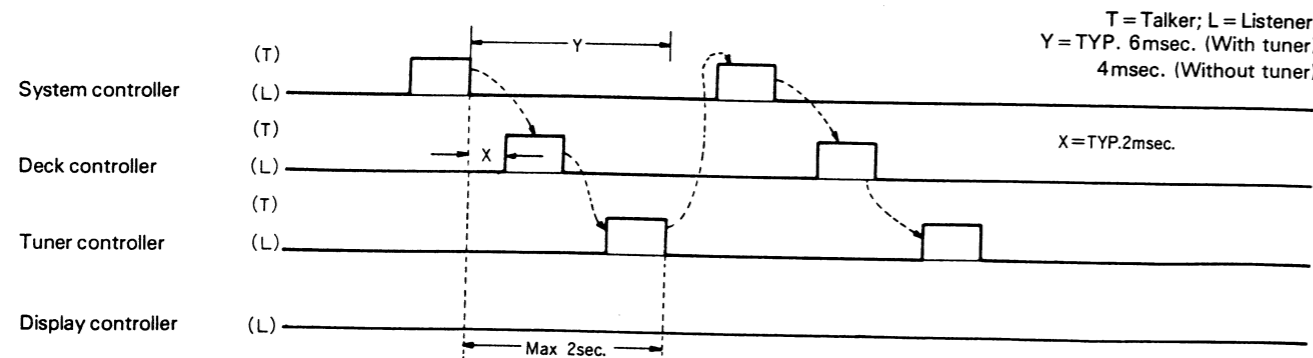

Fig. 15 Sequence of Switching between Talker and listener
In this unit, a system controller (PD 4054A), a deck controller (PD 4056A), and a tuner controller are linked via eight bit serial data transmission. There are three signal lines. These are: a data line (SD), a serial clock line (SCK), and a CS line between the system controller and the display controller. The system, deck, and tuner controllers switch automatically between talker and listener in the sequence shown in Figure 15. The display controller is "listener only", and obtains 80 bits of serial data from the CS signal from the system controller.
Data is transmitted among the controllers by switching between talker and listener in the order shown in Figure 15 (system to deck to tuner to system). If two seconds pass after the command controller transmits a command, without a command being transmitted by either the deck or tuner controller, the system controller will transmit a "reset" command, followed by a "standby" command. The tuner and deck will then be switched "off."